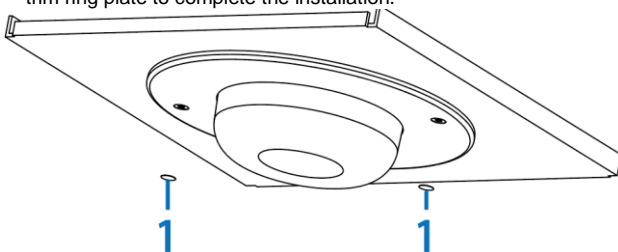

Figure 14
21. Insert the two mylars (1) (Figure 14) into the two screw holes on the trim ring plate to complete the installation.